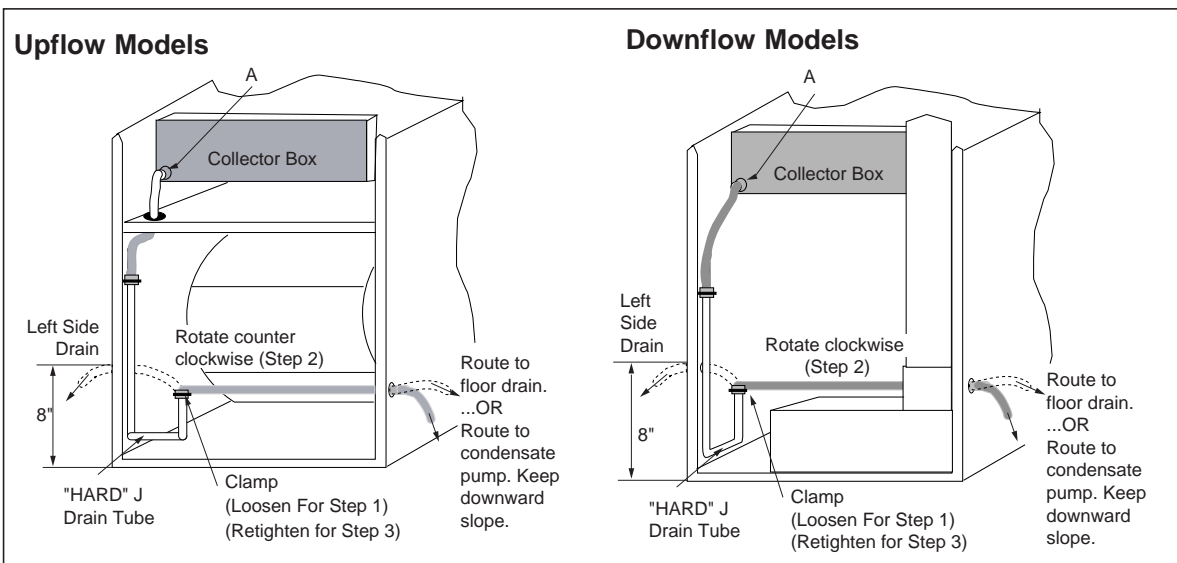

Figure 21. Furnace with Condensate Drain Trap Assembly
The condensate drain can be routed to a flow drain or to a condensate pump. Ensure that the drain maintains a downward slope from the unit to the drain. Refer to Figure 21 for more details.
For a right side drain simply extend the tubing out of the 7/8" hole in the cabinet, see Figure 21. For a left side drain follow the steps below:
1. Loosen the clamp on the soft exit tube (see Figure 21.)
The condensate should drain from the plastic collector box (location A in Figure 21) as droplets or a small stream. If you notice the furnace has operated for more than 5 minutes without draining or the red status light on the control board is pulsing a 2-blink code follow the steps below.
1. Remove the collector box soft tube at location A in Figure 21 and insure the exit from the collector box is clear of any debris or obstructions.